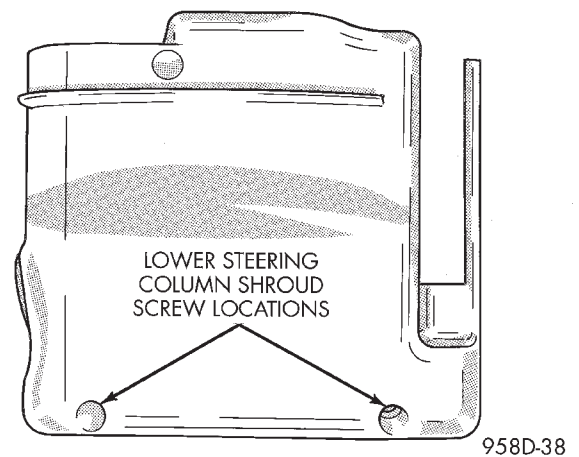

Fig. 55 Lower Steering Column Shroud Screw Locations
(7) Remove screws from lower steering column shroud (Fig. 55).